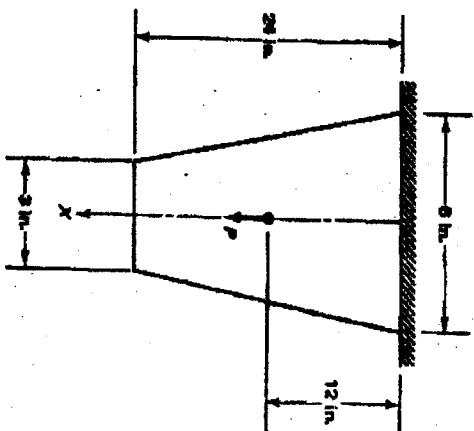

fig.2
- A thin steel plate has a uniform thickness $t = 1 \text{ in}$, as shown in the fig. 2. Its elastic modulus, $E = 30 \times 10^6 \text{ psi}$, and weight density, $\gamma = 0.2836 \text{ lb/in}^3$. The plate is subjected to a point load $P = 100 \text{ lb}$ at its midpoint and a traction force $T = 36 \text{ lb/ft}$. Determine: